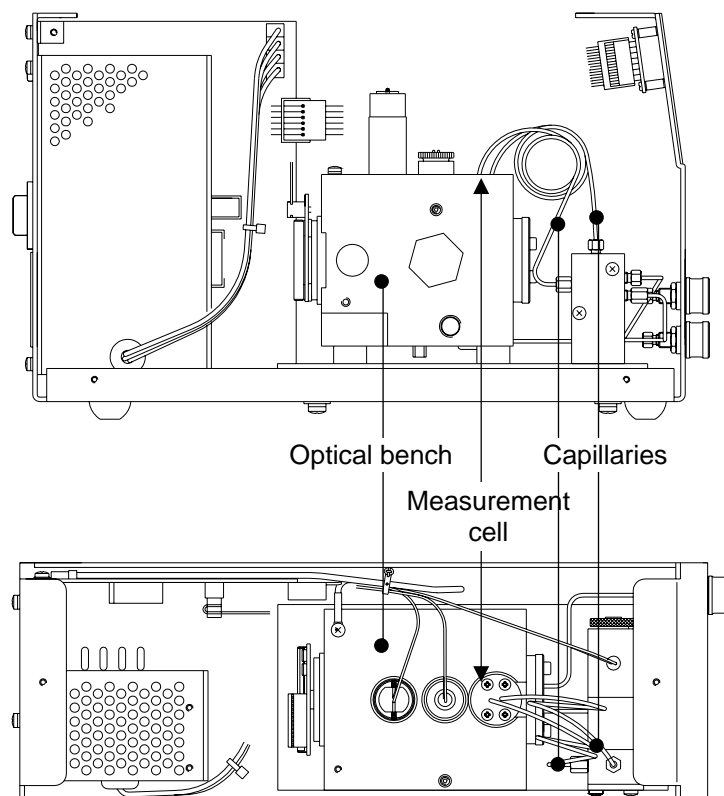

Fig. 11 Site of measurement cell in the K-2401 RI Detector
4. Locate the measurement cell inside the housing. The measurement cell is installed on the optical bench from above and is fastened as shown in Fig. 11 and by means of four spring-loaded screws.